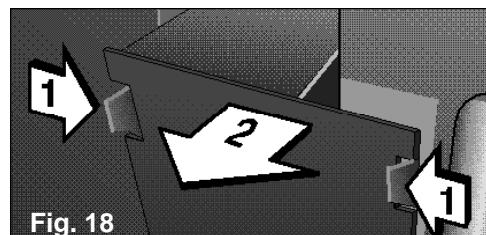

Fig. 18
- Remove cover F, **Fig. 1**, from the indoor unit. The flexible hose join is now visible, **Fig. 18.**